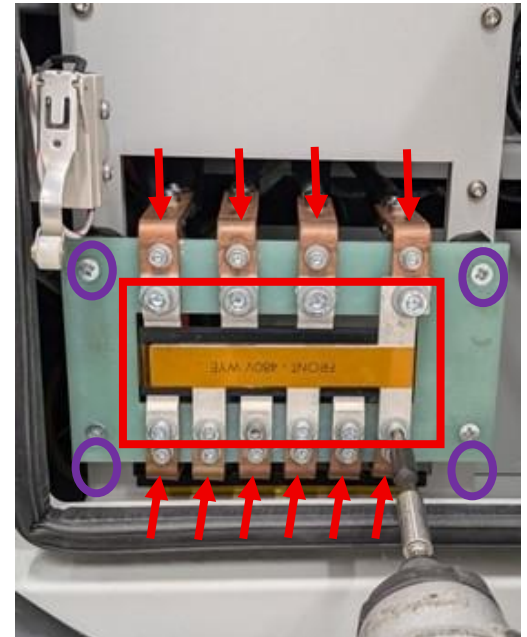

Figure 7
5. Remove the 10 socket head cap screws securing configuration bus bar in place (see Figure 7, red box) and set configuration bus bar and screws aside.
6. To restore order later, label 10 copper conductors' (Figure 7, red arrows) per order of attachment to the blue-tinted insulator plate; then unfasten the 10 copper conductors' socket head cap screws and set screws aside.
7. Unscrew the four Phillips screws securing the insulator plate to the four black standoffs (Figure 7, purple highlights), then set insulator plate and screws aside.